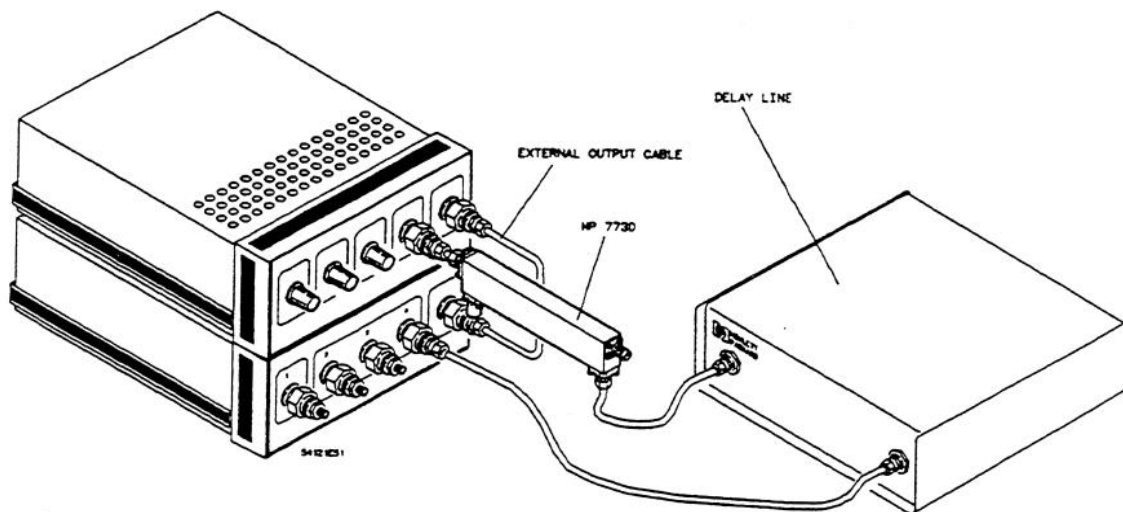

Figure 3-8. Recommended Pulsed RF Connections
1. Connect equipment as shown in figure 3-8 (input signal will be connected in a later step). A directional coupler which meets the following specifications is recommended: